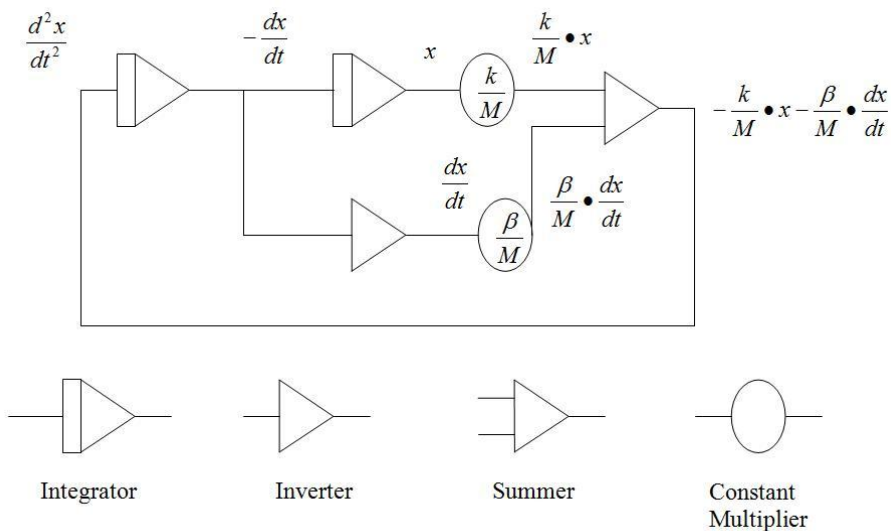
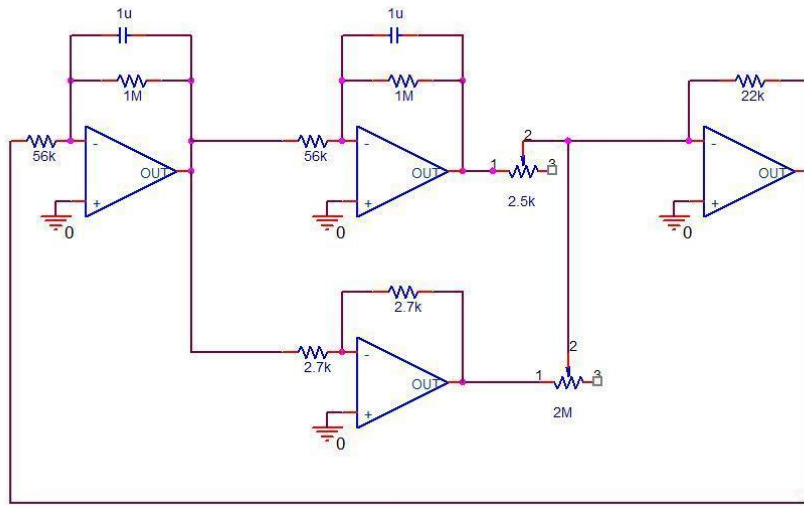

Figure 1
Figure 2
The circuit for this competition will be an electrical simulation of a spring-mass system modeled by the differential equation $x'' + \frac{\beta}{M} \cdot x' + \frac{k}{M} \cdot x = 0$ or $x'' = -\frac{\beta}{M} \cdot x' - \frac{k}{M} \cdot x$. M is the mass of the object, k is the spring constant, and β is the damping coefficient. Figure 1 shows the block diagram for the solution of the differential equation.
Conveniently, the operational amplifier can be utilized for every operation shown in the Figure 1. Figure 2 shows the circuit to realize the solution.
1. Build the circuit shown in Figure 2 and demonstrate its operation.
2. The circuit in Figure 2 operates at faster than real time. **Modify the circuit** to increase or decrease the speed.